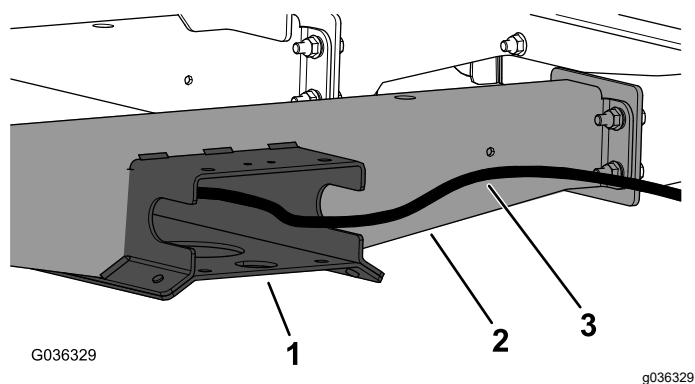

Figure 6
- 4. Route the kit hose along the floor-channel plate and through the opening in frame channel (Figure 6).